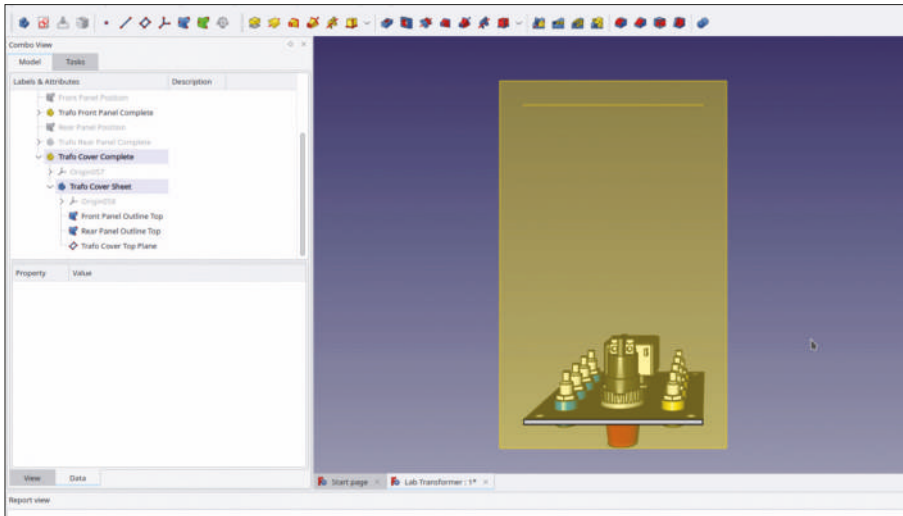

Figure 9-109
9. Close and reopen the sketch in order to show external geometry (Figure 9-109). The shape binders appear as yellow lines. Temporarily display the 'Trafo Front Panel Complete' to see which of the shape binders corresponds to the front (Figure 9-109).